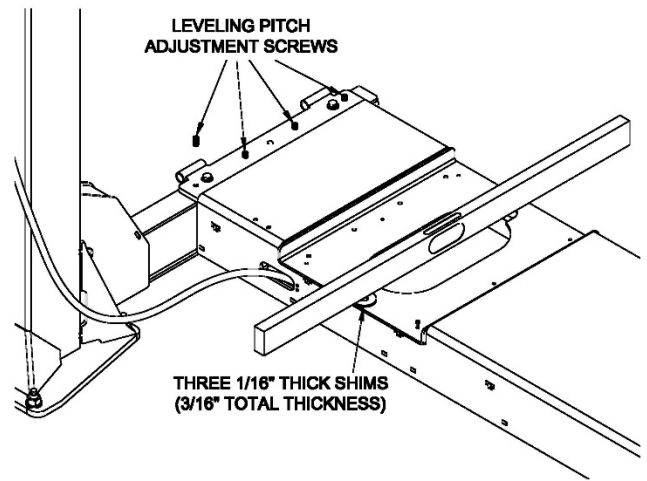

Fig 26 – Runway Pitch Adjustment
- 74) Place the level in a front turn plate cutout, **Fig 26**. Place three 1/16" thick column shims (3/16" total thickness) under the level at the outside edge of the cutout and adjust the runway pitch leveling screws until the bubble is centered between the lines. Make sure all leveling screws are touching the crossbeam. Torque runway bolts to 60-80 foot pounds and recheck the level. Repeat for other side. (The rear of the runway usually does not require pitch adjustment as this is a closed rear crossbeam.)